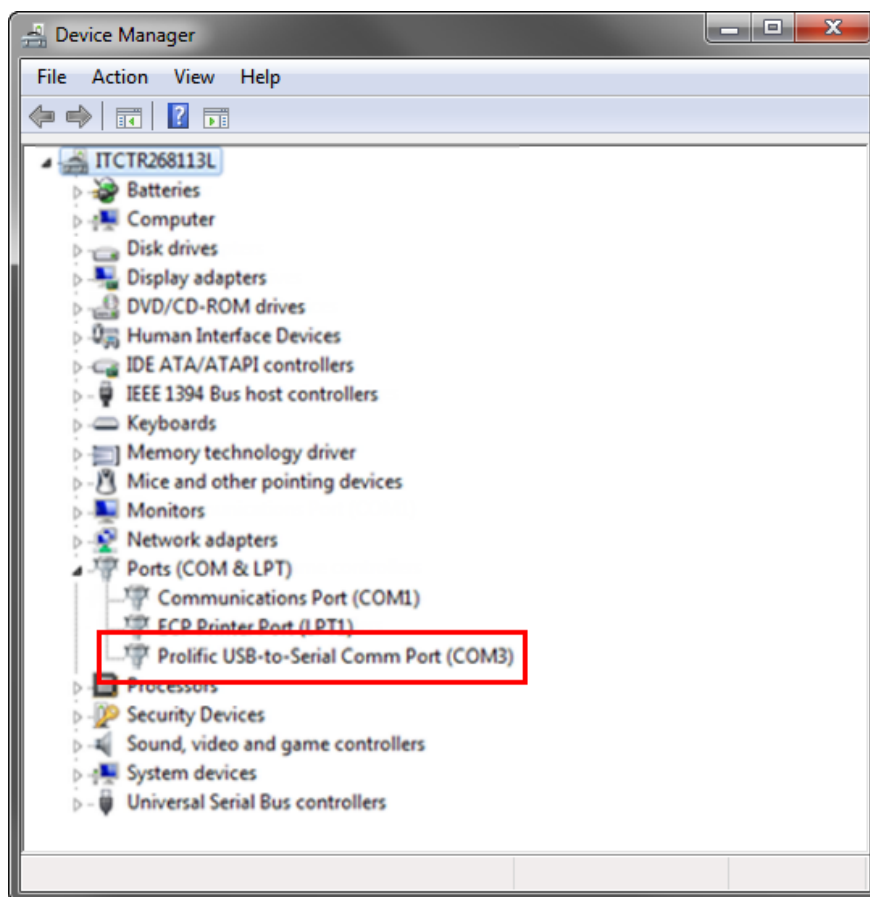

Figure 44. USB-to-Serial Comm Port Example
5. Locate the **Ports (COM and LPT)** line and click on the plus (+) sign to expand. The ports recognized by Windows are listed here. Note the port name that is listed as Serial Comm Port (COMx), where x is the number of the port. COM3 is the port number shown in the example in Figure 44.